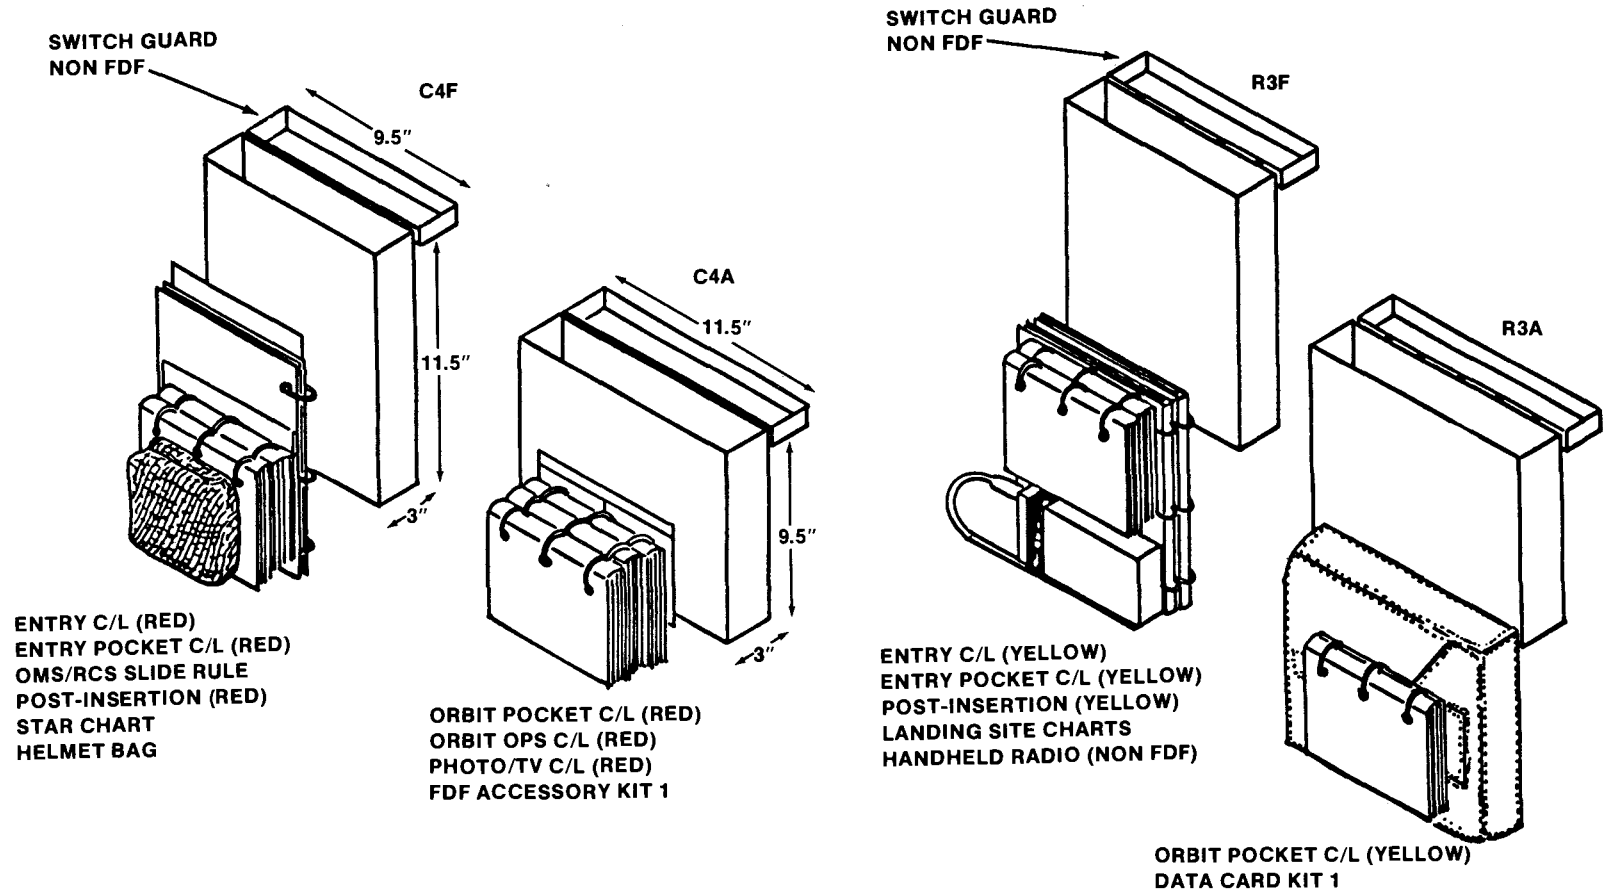

Figure 3.2-2.- Flight deck FDF containers and representative items.
- Lockers R3F and R3A (fig. 3.2-2)